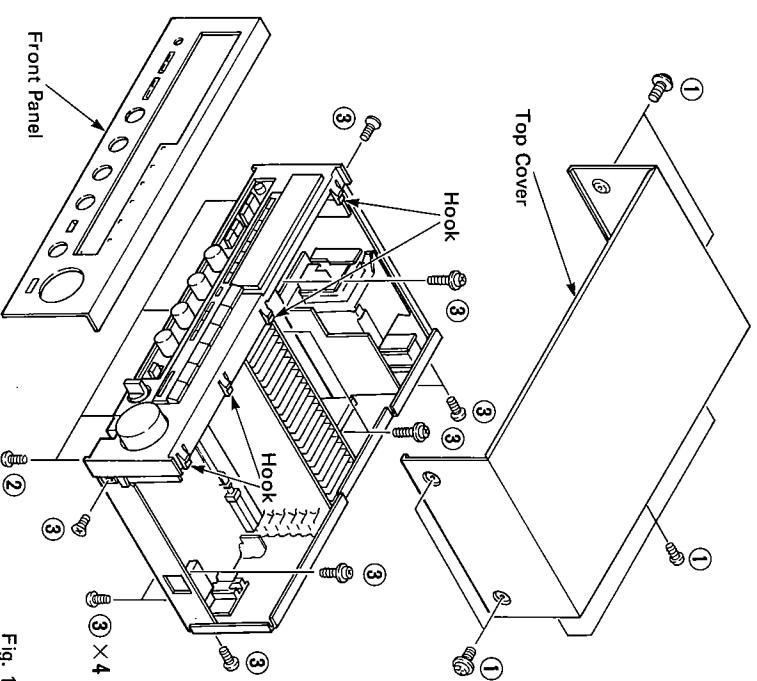

Fig. 1
Remove 7 screws (1) in Fig. 1, and slide the Top Cover back and up.
Remove 4 screws (2) and 4 hooks in Fig. 1, and pull the Front Panel forward.
3. Check of Main & Tuner Circuit Board (1) and re-
- a. Remove 13 screws (3) in Fig. 1.